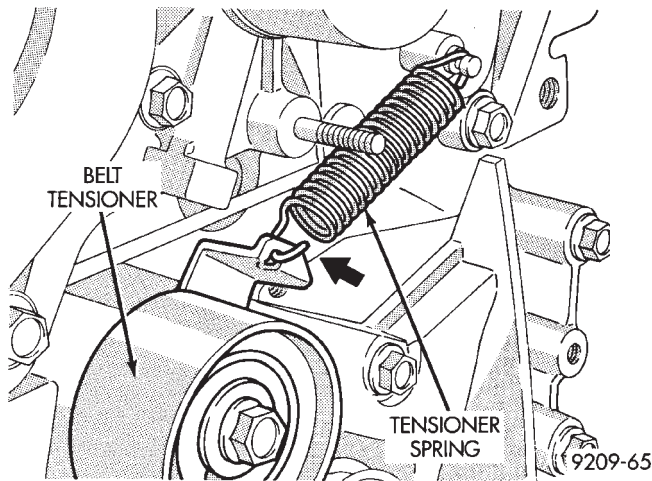

Fig. 16 Timing Belt Tensioner
- (2) Loosen timing belt tensioner bolt (Fig. 16) and remove timing belt.
- (1) Install timing belt tensioner and tensioner spring.
- (2) Hook spring upper end to water pump pin and lower end to tensioner bracket with hook out (Fig. 16).